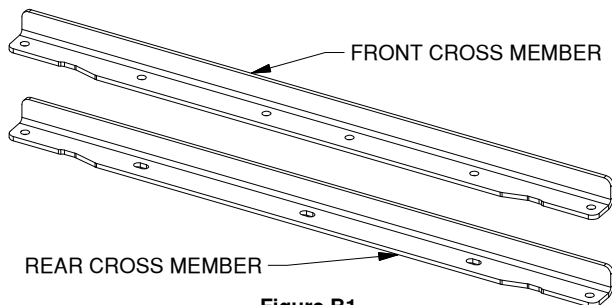
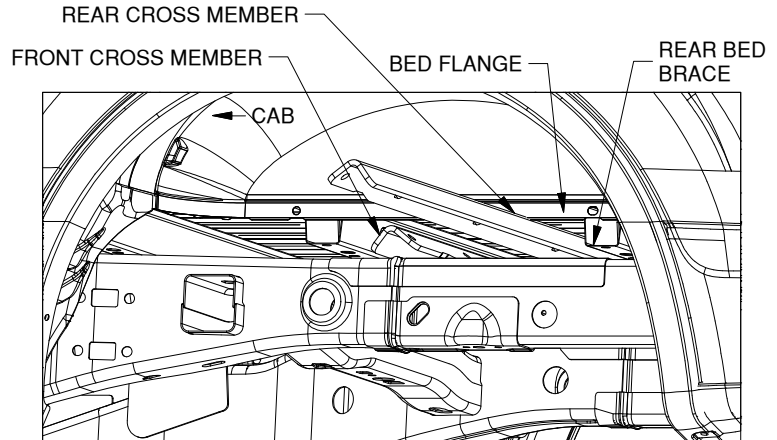

Figure B1
Figure B2: View of driver side wheel well.
1. Place the front and rear cross members. Locate the front and rear cross members, see Figure B1. Place them in the gap between the bed and the frame directly above the axle, shown in Figure B2. Slide the cross members across the frame until they span both frame rails. Push the front cross member forward and the rear cross member back until they are against the bed braces. The flange of the front cross member with the holes must be toward the rear of the truck. The flange of the rear cross member with the slots must be toward the front of the truck.